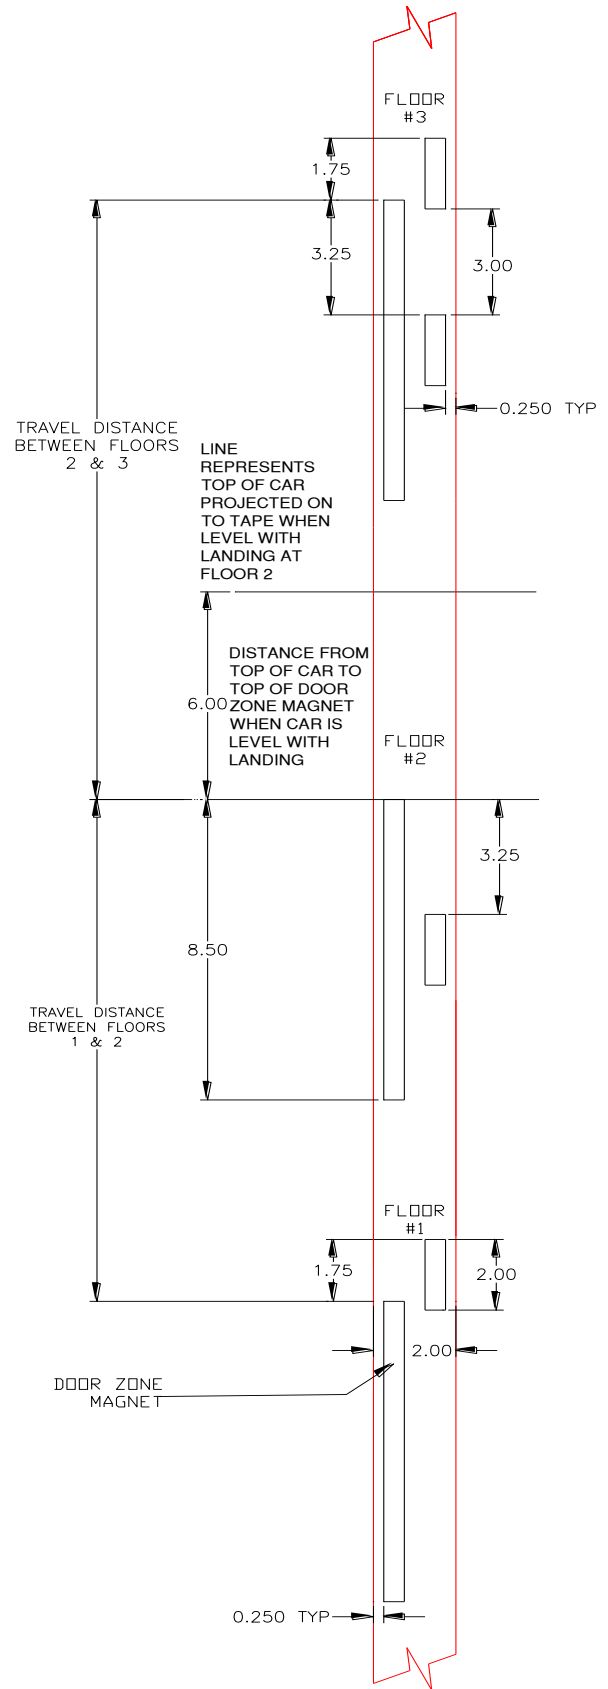

Figure 56 - Magnet Placement Using Travel Distance
- d. Locate & mark the top of the door zone magnet on floors below and floors above using the travel distance between floors. See Figure 56.